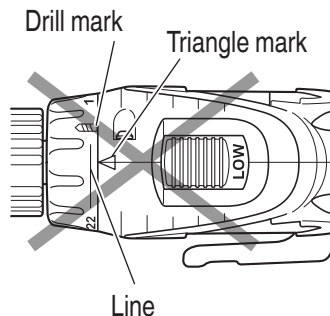

**Fig. 4**
1. Confirm the clutch dial position (See **Fig. 4**)
The tightening torque differs depending on the type of screw and the material being tightened. The unit indicates the tightening torque with the numbers “1, 3, 5 ... 22” on the clutch dial, and a dots. The tightening torque at position “1” is the weakest and the torque is strongest at the highest number (See Fig. 4 on page 24).